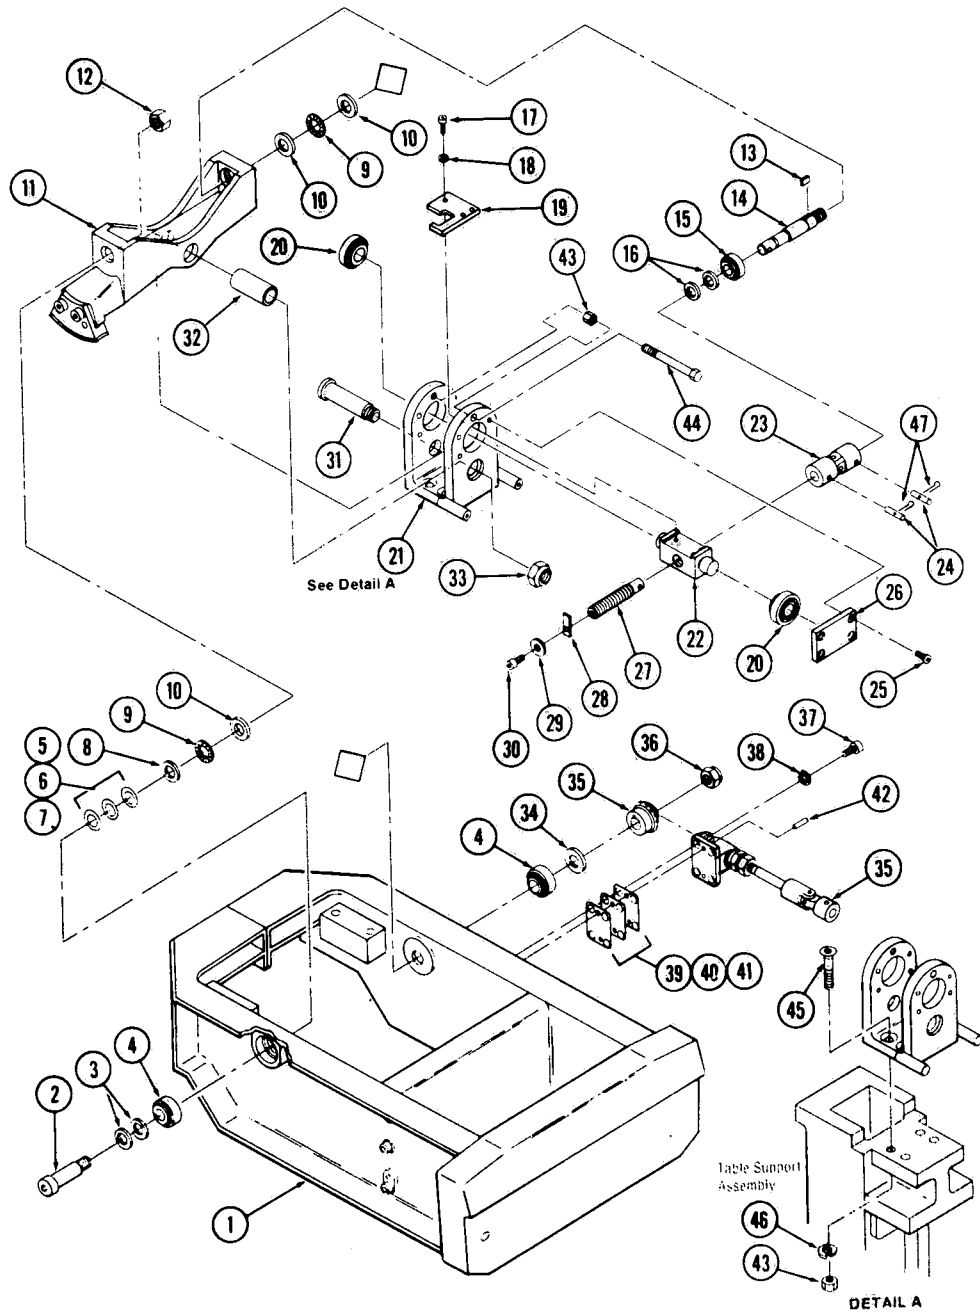

Figure 2. SUPERSTRUCTURE ASSEMBLY (Part 1 of 2).
- Figure 2. TABLE SUPERSTRUCTURE ASSEMBLY (Part 1 of 2).